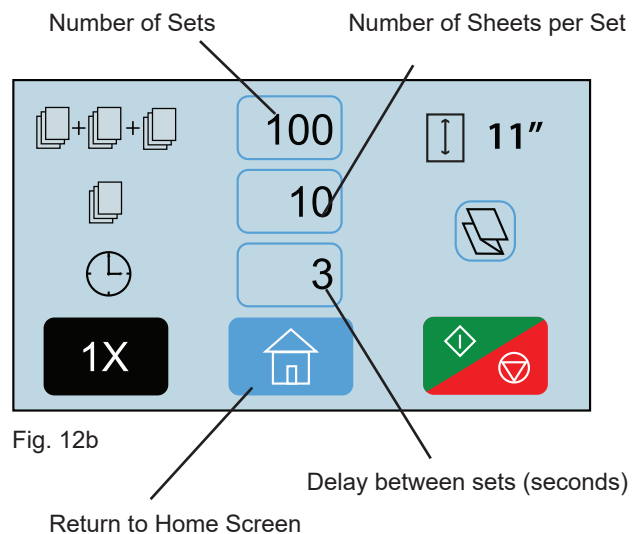
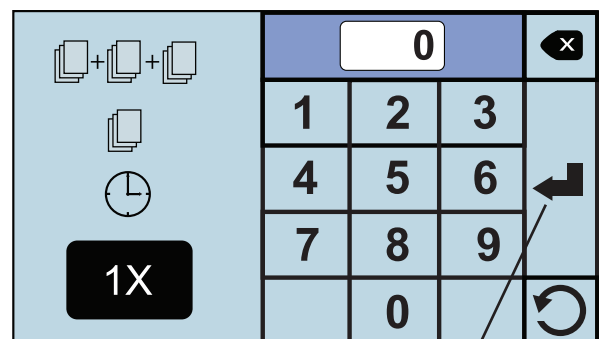

Fig. 12b
Fig. 12c
1. To enter the number of sets press the ++ icon (fig. 12b). Enter the number of sets on the keypad that appears. Next press the  icon to select the number of sheets, and then press the  icon to enter the delay between sets. Press the  to exit the keypad (Fig. 12c).
2. Press the  icon to begin folding. The folder will stop when the number of sets counts down to zero (0).